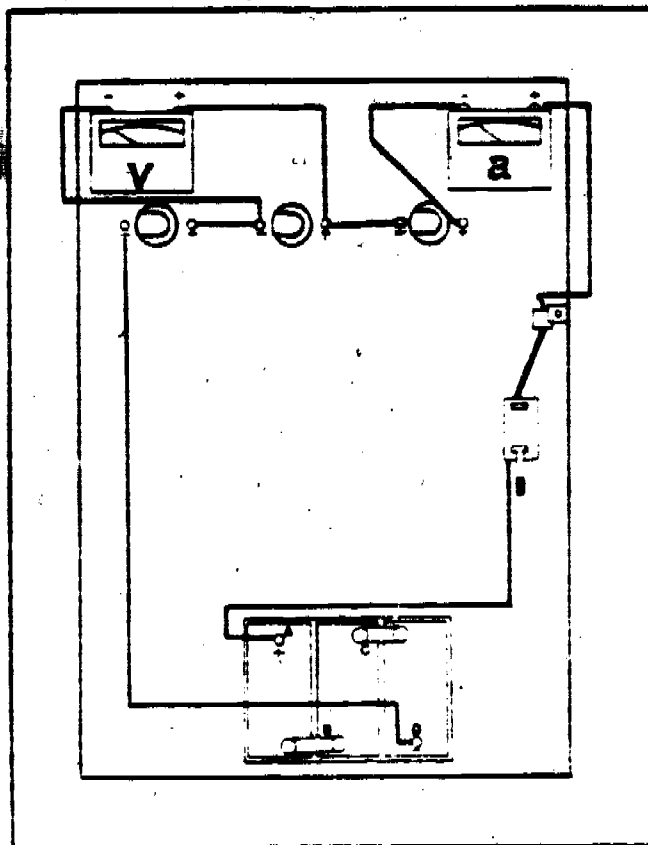

Figure 3. Series Circuit Using Three Light Bulbs.
6. Connect the three light bulbs on the trainer in a series circuit as shown in figure 3.